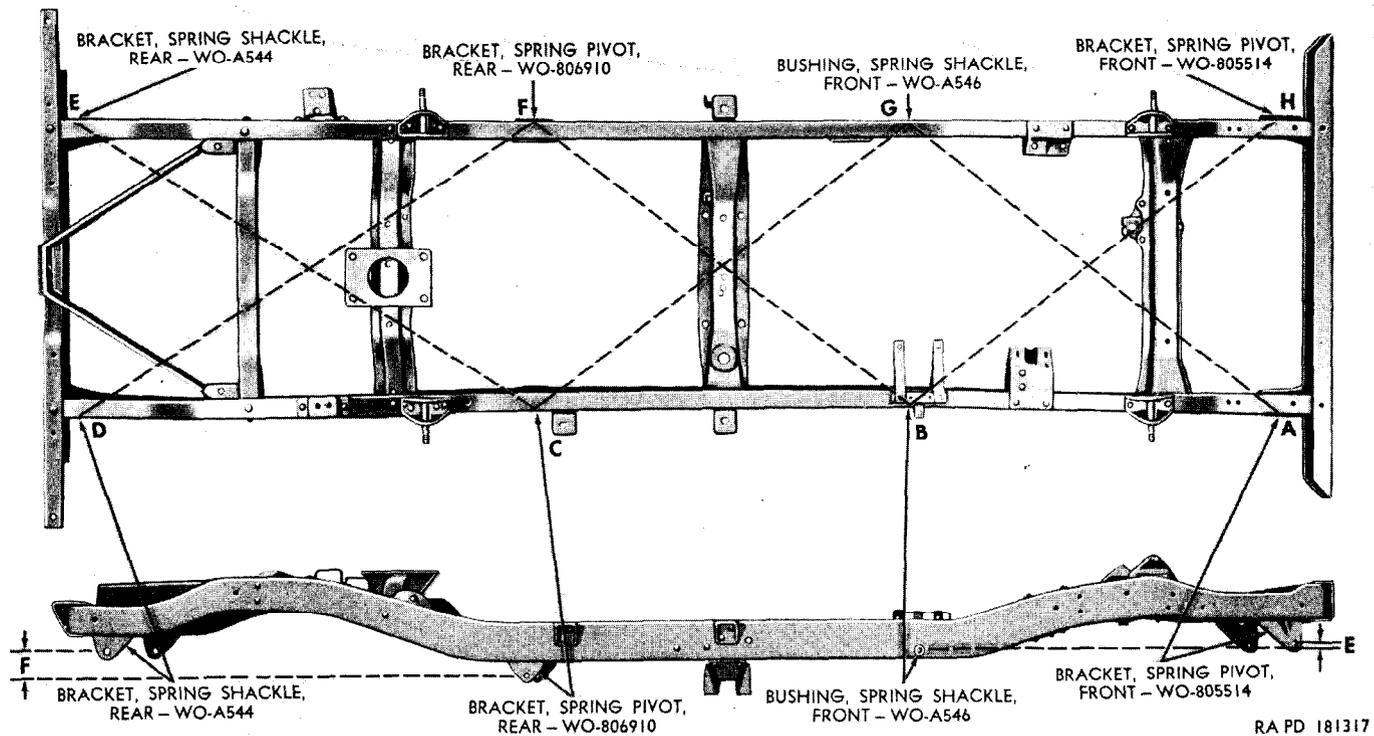

Figure 181. Frame alinement points.
a. *Inspection* (fig. 181).
- (1) *General.* Inspection of the frame should be made before removal from the vehicle and after removal. Since improper steering geometry or axle alignment may offer similar symptoms of improper vehicle operation as those caused by a distorted frame (due to accident), it is recommended that
(2) *Inspection of frame prior to removal.* Check frame for mis-alinement. If a frame alining fixture is not available, use the "X" or diagonal method (fig. 181) of checking frame alinement. The most convenient method of checking alinement while the frame is still installed on the vehicle is by marking on the floor all points from which measurements should be taken. Figure 181 illustrates check points that should be used for making plumb bob marks.
(a) Position vehicle on a clean level floor or other suitable place. Hang a plumb bob from each point (A through H) as indicated in figure 181. Mark spots on floor beneath plumb bob points.